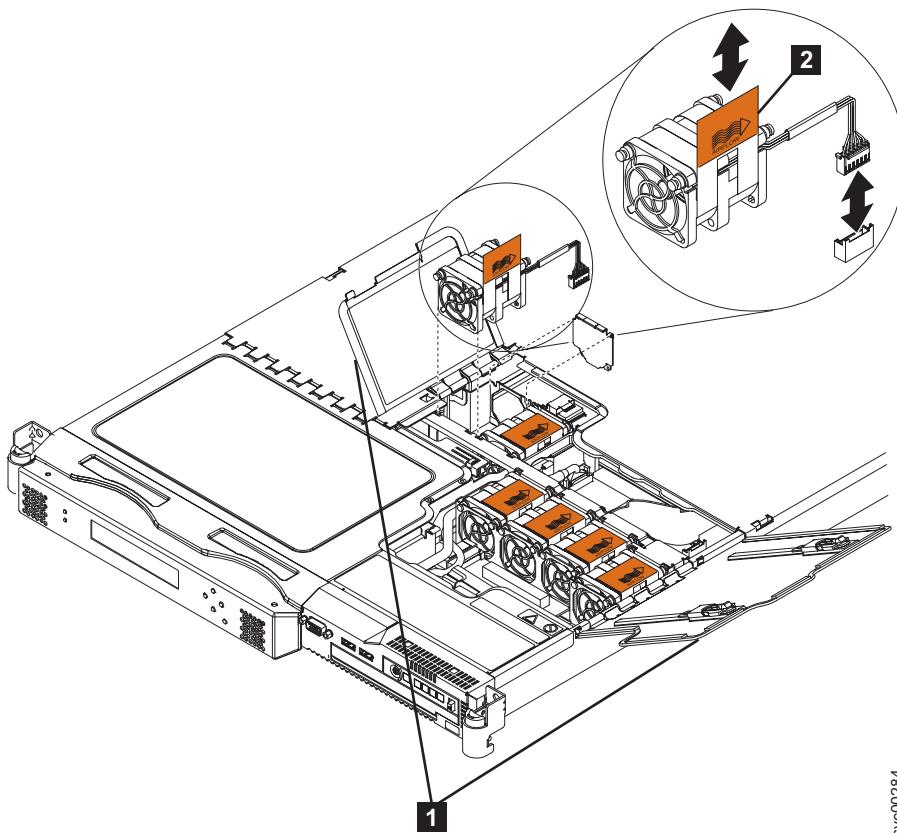

Figure 247. SAN Volume Controller 2145-8G4 fan doors, locations, and connectors
1. Orient the new fan in the same position as the fan that you removed. Make sure that the airflow indicator on the orange tab, (**2** in Figure 247) is pointing to the rear of the node.